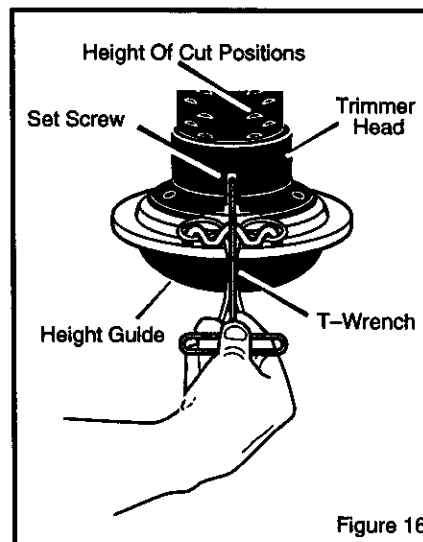

Figure 16
- Trimmer head contact to concrete, asphalt and harder services may create premature wear to the height guide (See Figure 16).
1. Use the T-wrench, found in the parts bag, to loosen the set screw shown in Figure 16.